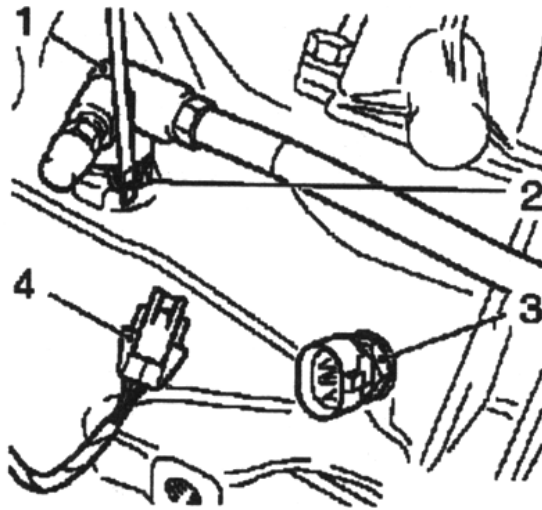

Fig. 3.35. Disconnecting elements element ktropitaniya and discharge water pipelines:
Disconnect the wiring harness connector (4), switch reversing lamps (Figure 3.35).
Disconnect the discharge pipe from the nipple (Figure 3.35).